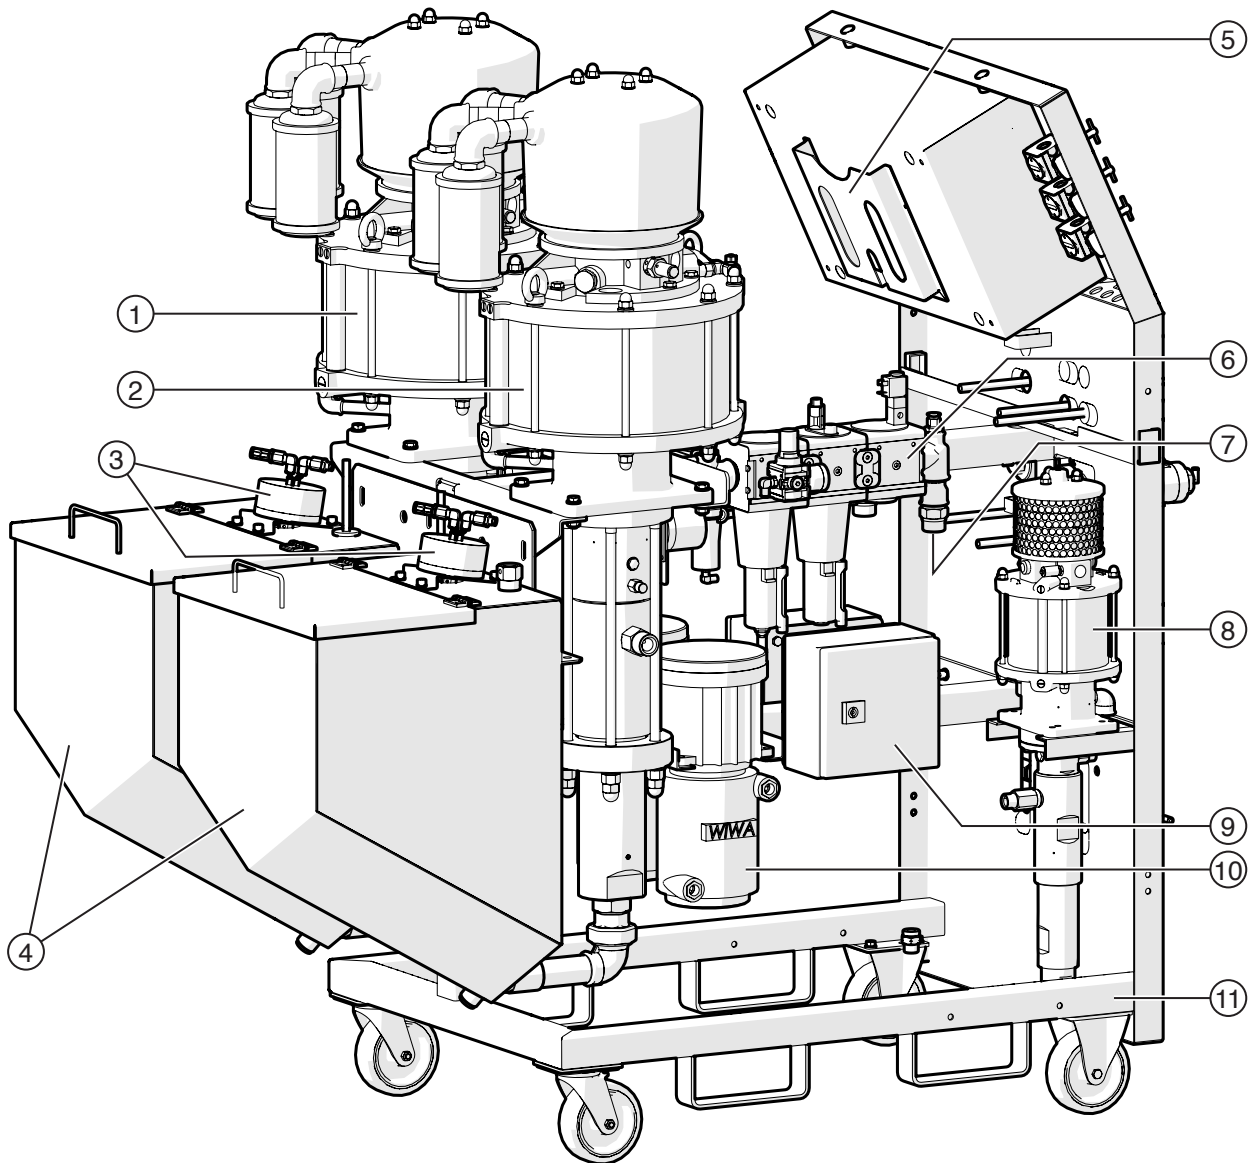

Fig. 10: Rear view of the FLEXIMIX 2 HERKULES (example)
- the HERKULES series with a delivery rate of up to 550 cm² per cycle depending on pump combination (see Fig. 10 on page 22).